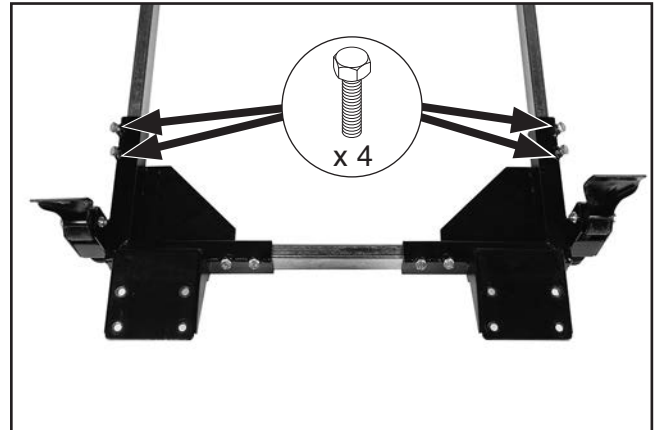

Figure 14. Rails fastened to brackets (machine removed for clarity).
- Slide other side rails into front brackets from **Step 4**. Secure rails to front brackets with (4) M8-1.25 x 16 hex bolts, as shown in **Figure 14**.